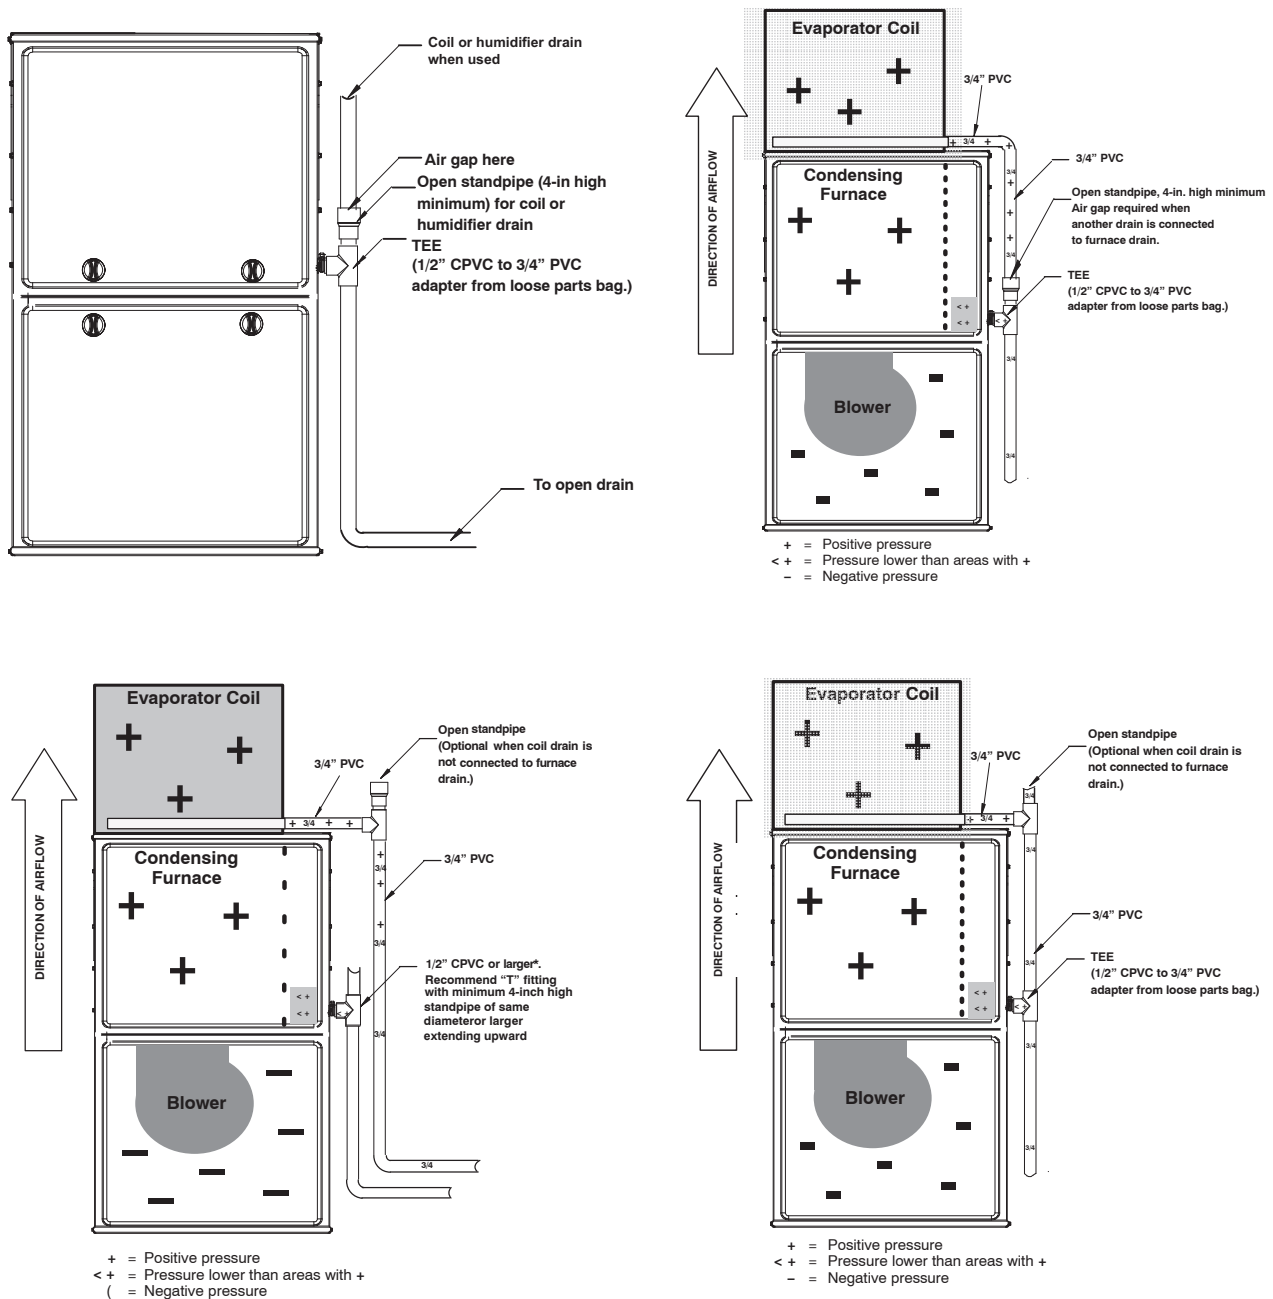

Fig. 18 - Example of Field Drain Attachment
- c. All condensate piping is at least 3/4-in. PVC and there is a relief tee at the top of condensate drain piping as shown in Fig. 18.